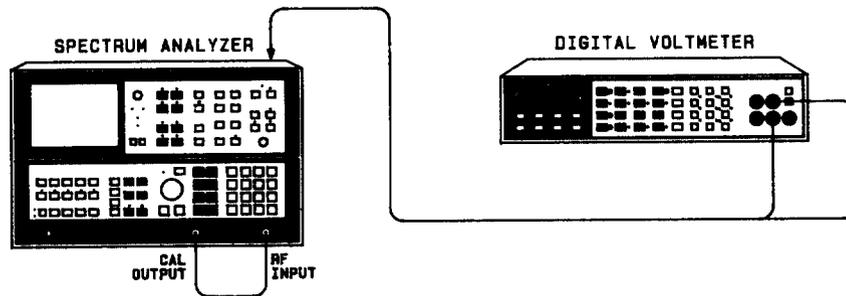

FIGURE 76. TRACK AND HOLD ADJUSTMENTS SETUP
1. Place instrument upright as shown in Figure 76 with top and A3 Digital Storage covers removed.